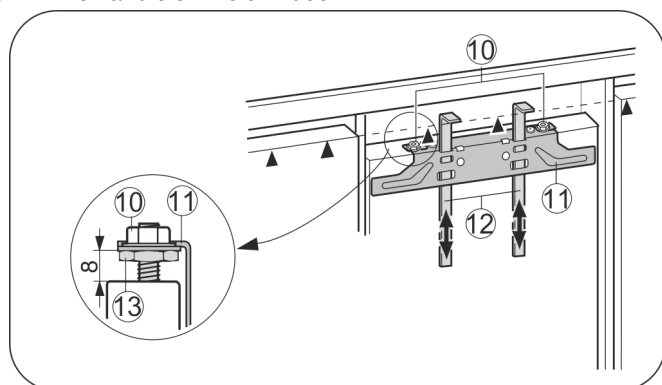

Fig. 25
- ▶ Push up assembly aids Fig. 25 (12) to unit door height. Lower edge ▲ of the assembly aid = top edge of the unit door to be fitted.
- ▶ Unscrew fastening crosspiece Fig. 25 (11) by undoing the locknuts Fig. 25 (10).